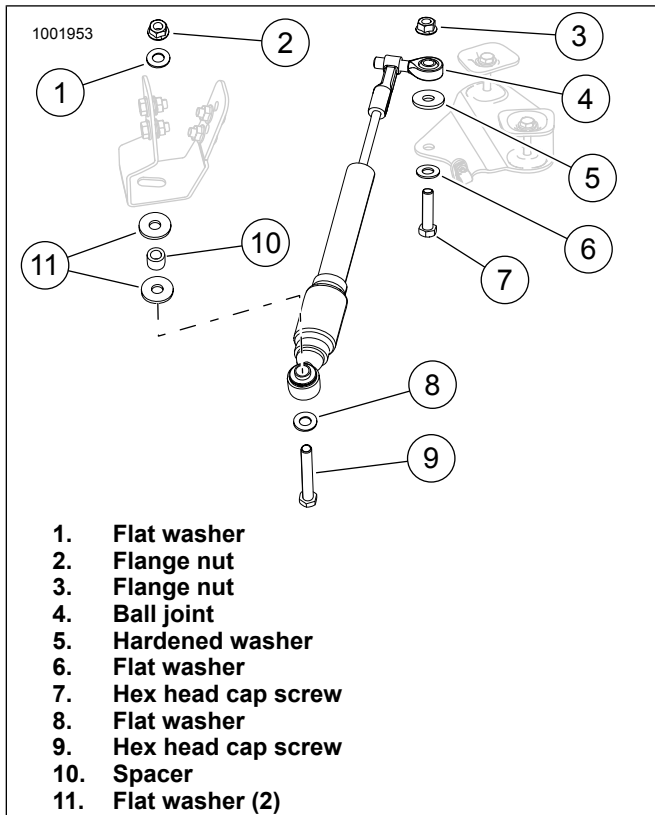

Figure 6. Install Steering Damper
1. See Figure 6. Attach rod end ball joint (4) to steer damper. Adjust so about 3/8 in (10 mm) of the threads protrude.